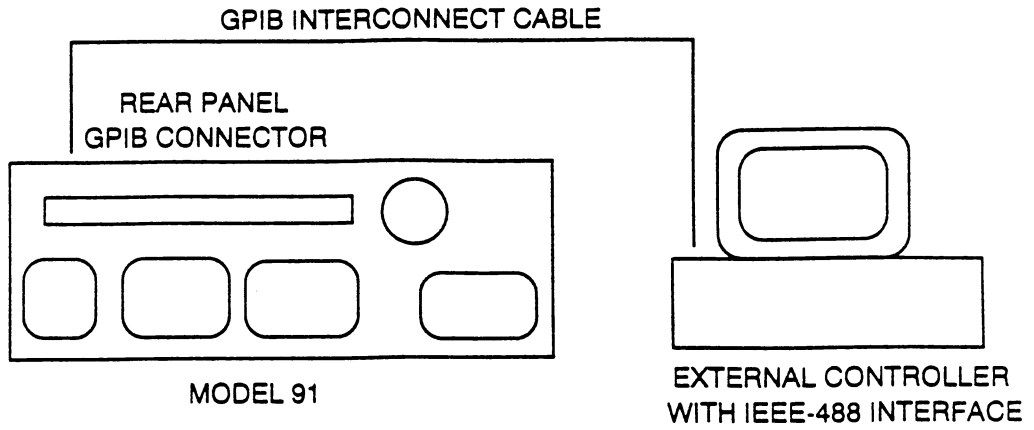

Figure 3-4. GPIB Interconnect Wiring
1. Connect a GPIB interconnect cable between the Model 91 and the controller as shown in figure 3-4. The Model 91 GPIB connector (E) is located on the rear panel of the instrument.